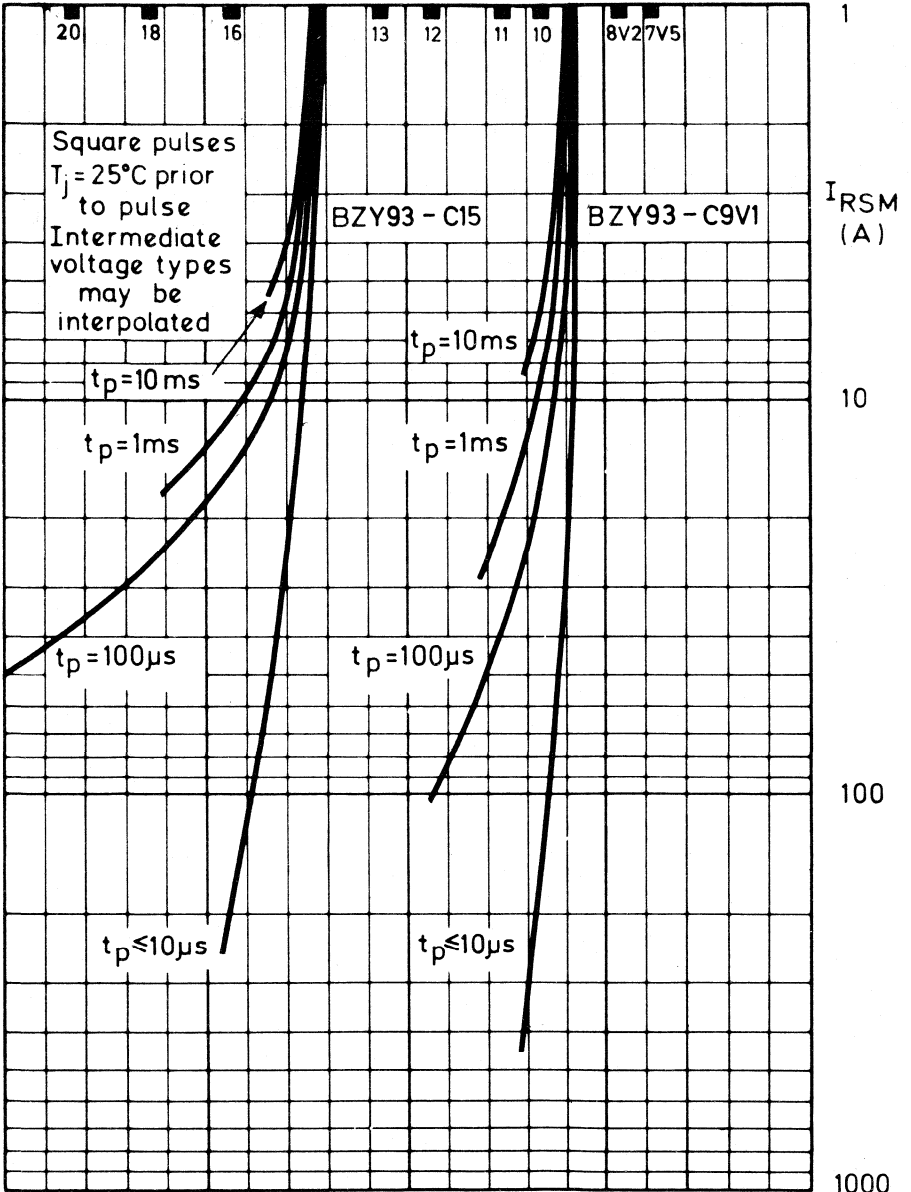
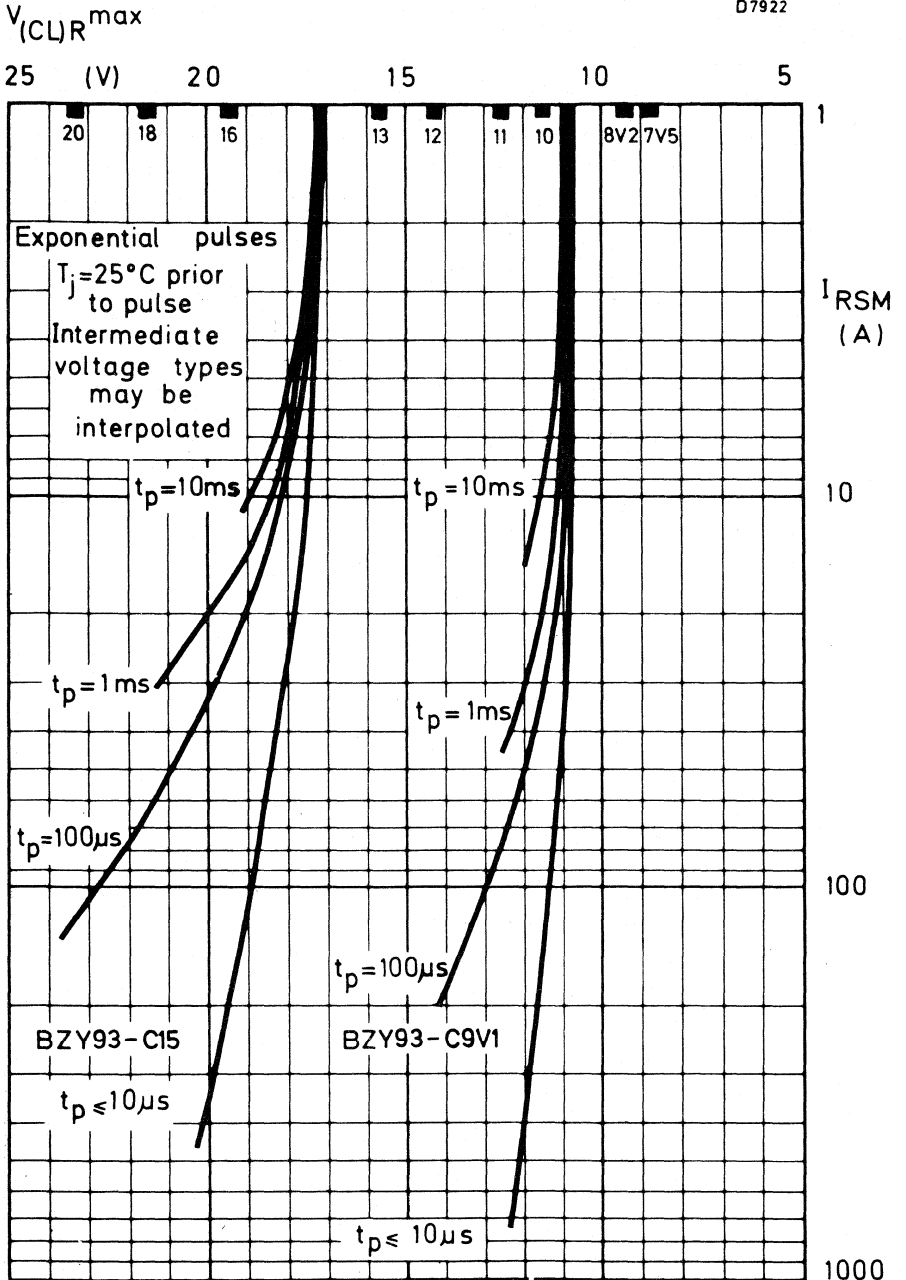

Fig. 15.
Fig. 17.
2. The maximum clamping voltage is the maximum reverse voltage which appears across the diode at the specified pulse duration and junction temperature. For square pulses see Figs 15 and 16, for exponential pulses see Figs 17 and 18.